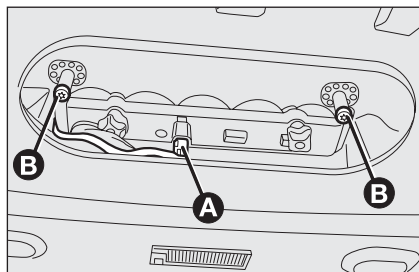

fig. 25
- ☐ disconnect the electric connector **A**-fig. 25;
- ☐ unscrew the two laterals pivots **B**-fig. 25;